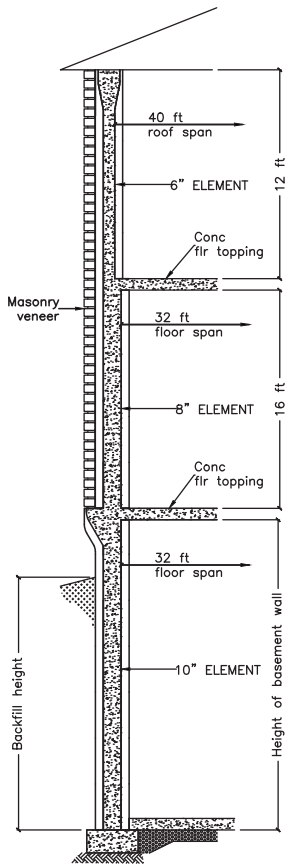

Fig 2C
2. Table 2A shall be read in conjunction with Fig 2C, and "NOTES FOR TABLES 2A TO 2D - ELEMENT BELOW-GRADE TABLES."